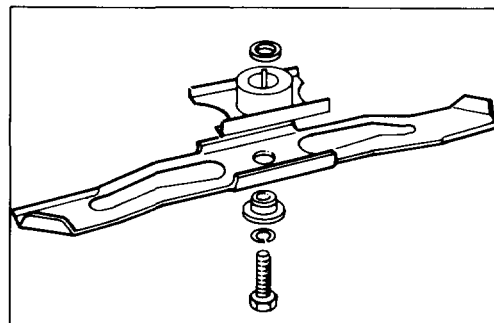

Figure 14
4. **REMOVING BLADE** — Grasp end of blade, not the plastic fan that can break, using a rag or thickly padded glove. Remove blade bolt, lock washer, spacer and blade (Fig. 14).